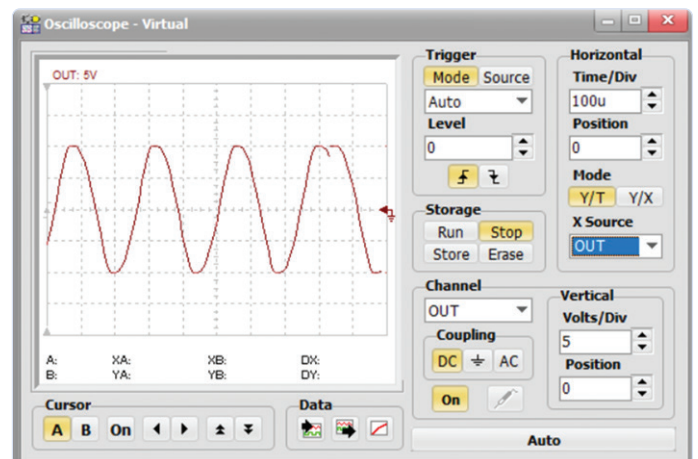

Figure 3: Output waveform.
- Check the output waveform (Figure 3). The period is 250 μ s which corresponds to 4 kHz. Note the glitch in the output waveform on the oscilloscope. The oscilloscope can be synchronized to create a stable picture. To do this, select *Normal* under *Mode* and *synchronizing signal* under *Source*. It may also be needed to set the (Trigger) Level.